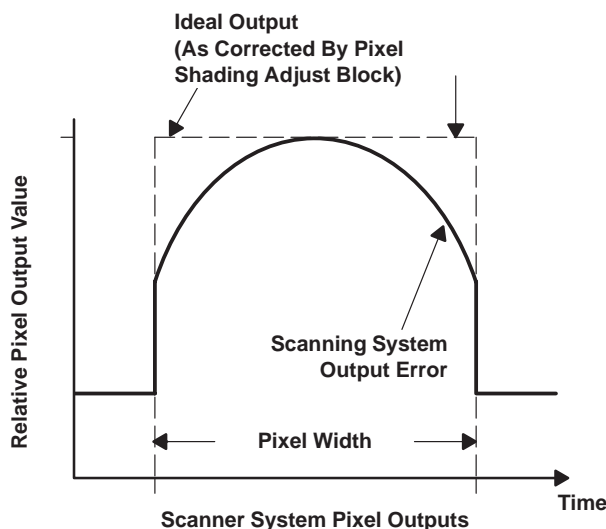

Figure 10. Scanner System Relative CCD Pixel Output
3. Dynamic gain adjustment is needed to compensate for the fall off in output from the center to the ends of the array when used in scanner applications (see Figure 10). Dynamic offset adjustments are required to compensate for the pixel-by-pixel variation in black dc levels obtained from different CCD array elements.